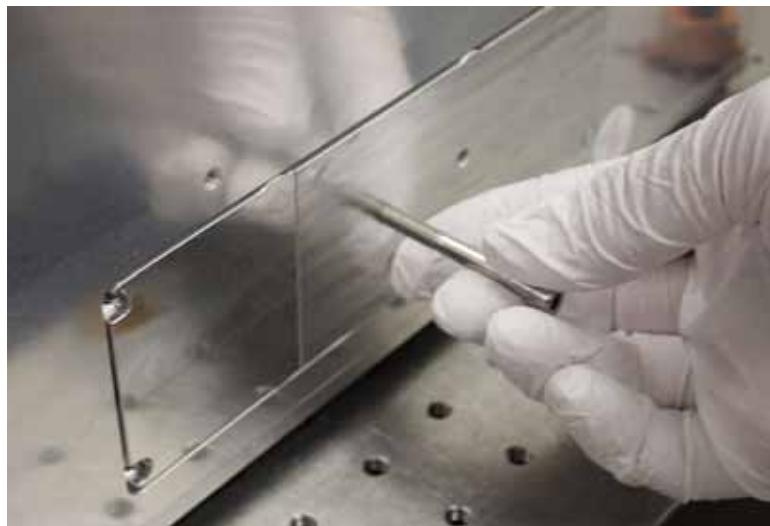

Figure 4.6-1. M5 Screw for Handling
2. Screw in the M5 screw into the recirculator housing to provide easy removal and handling of the recirculator (see Figure 4.6-1).